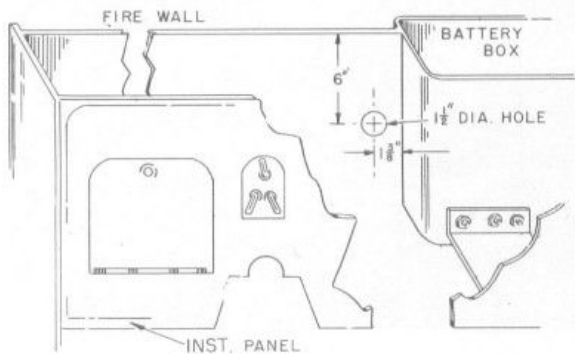

Figure 7
2. Using the dimensions shown in Figure 7, locate and drill a 1 1/2-inch hole in the firewall for the heater wiring harness. Be careful not to damage wiring on the engine side of the firewall when drilling the hole (See Figure 8).